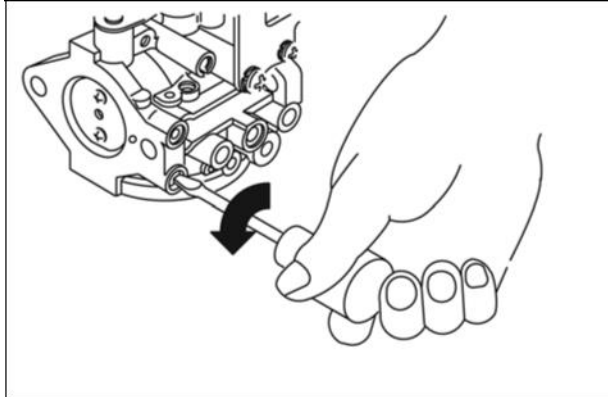

Figure 56
1. Turn idle mixture screw clockwise until it just seats. **DO NOT FORCE**. Turn screw counter-clockwise 1/2 turn (Figure 56). This setting will permit engine to start.